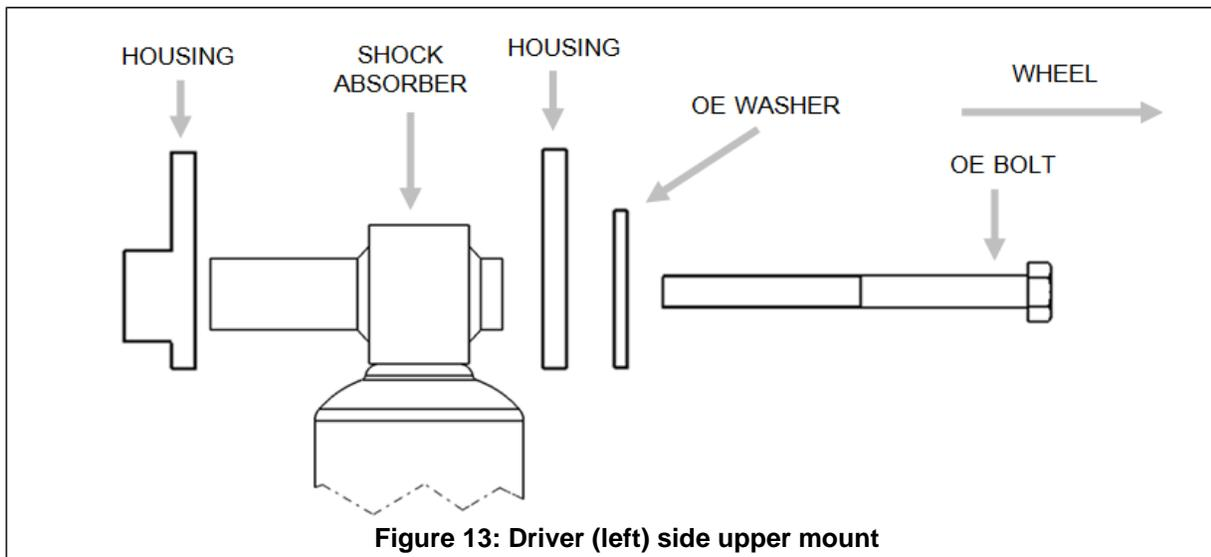

Figure 13: Driver (left) side upper mount
- U. Install the passenger side shock in the original location with the top mount offsetting away from the vehicle as shown in Figure 13.